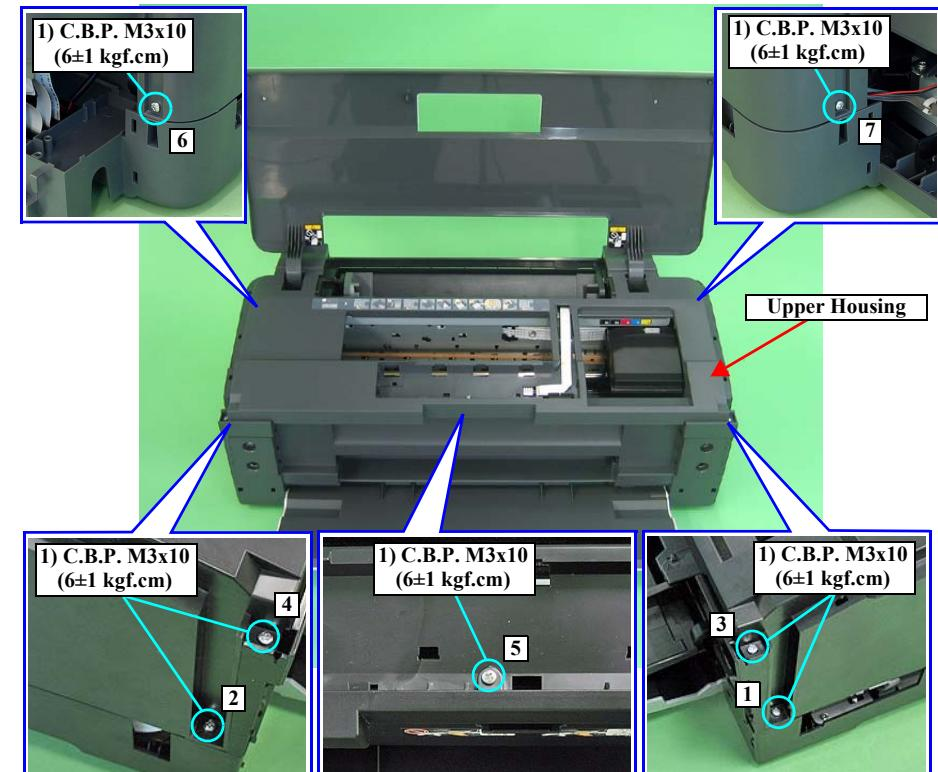

Figure 3-23. Remove the Upper Housing
- Tighten the screws in the order shown in Figure 3-23.